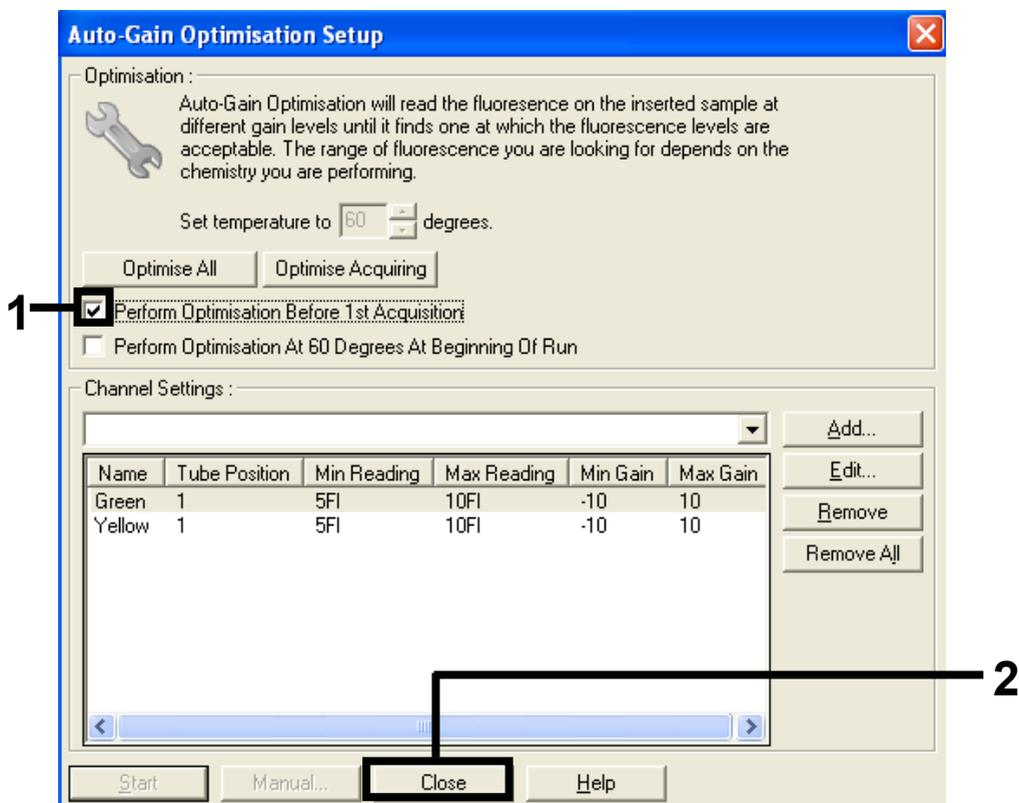

Figure 20. Selection of green and yellow channels.
14. Check the "Perform Optimization before 1st Acquisition" box and then click "Close" to return to the wizard (Figure 20).